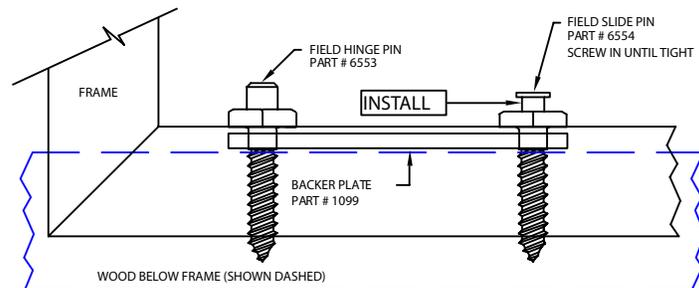

Figure 4
- Screw in slide pin until tight. **Figure 4**